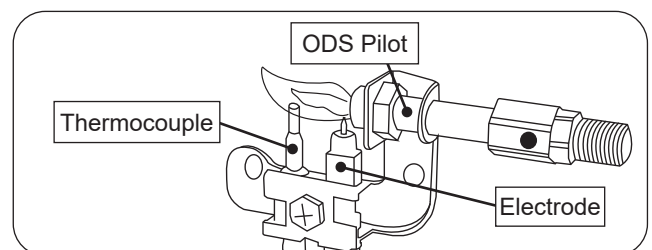

Fig. 25-2 ODS Pilot assembly detail
3. Locate the pilot assembly toward the center of the unit, near the main burner (see Fig. 25-2).